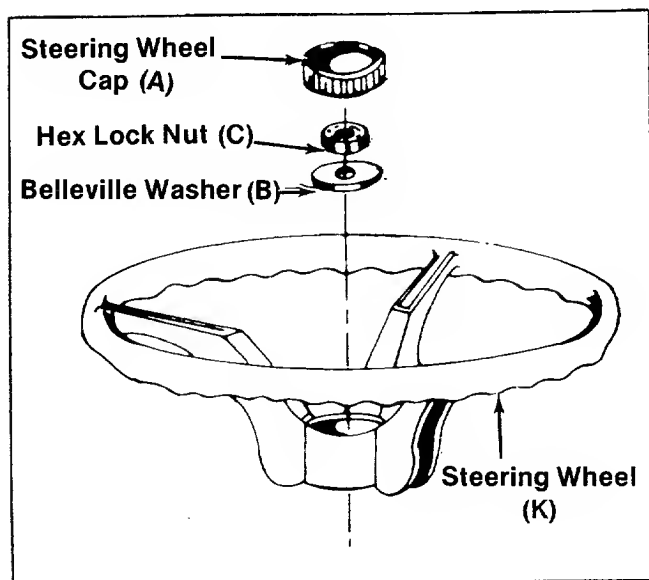

FIGURE 2.
2. Place steering wheel (K) over steering shaft.
3. Secure with belleville washer (B) and hex lock nut (C). See figure 2.
4. Press the steering wheel cap (A) on the steering wheel by hand. See figure 2.